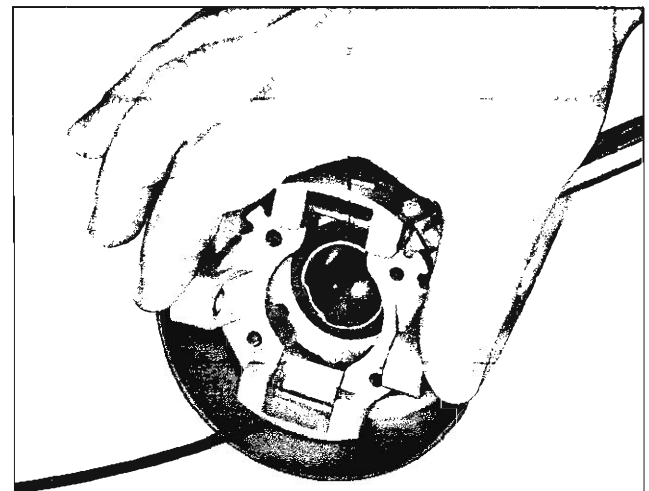

Fig. 25—Actuator Support
16. Remove the four actuator support screws and the support from the mast jacket (fig. 25).